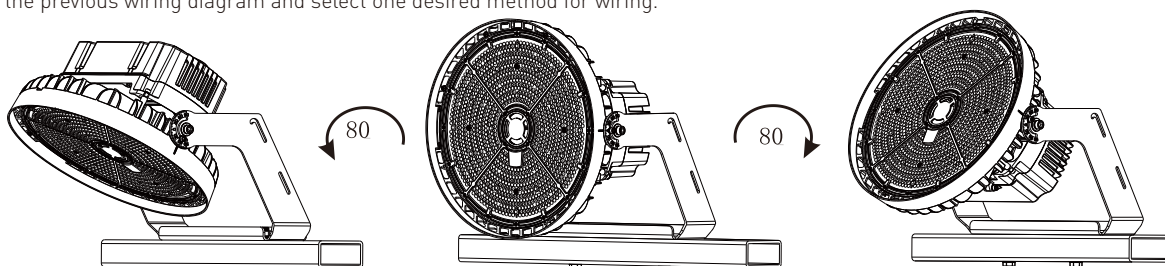

Figure 5
5. According to the need, adjust the projection angle, angle adjustment range . (Figure 5)